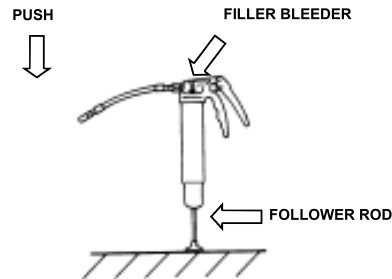

Fig 5
- 6) Bleed air from grease (see Fig 5).
6) Bleed air from grease (see Fig 5).
- 2) Unscrew the Filler/Bleeder Valve two full turns (see Fig 5). Lock the Pull rod into the follower.
3) Place the rod Pull Handle on a flat surface and push gun down firmly (see Fig 5). Some grease will appear before air is expelled.